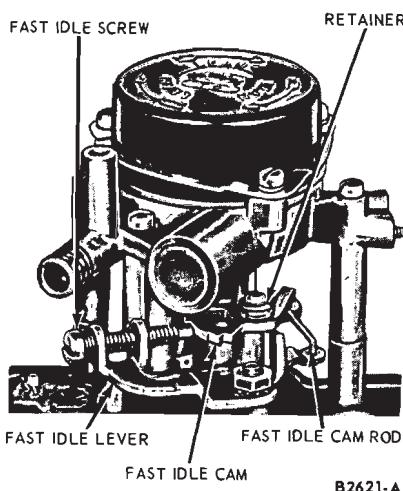

FIG. 11—Fast Idle Cam and Fast Idle Lever
1. Remove the fast idle cam retainer (Fig. 11).